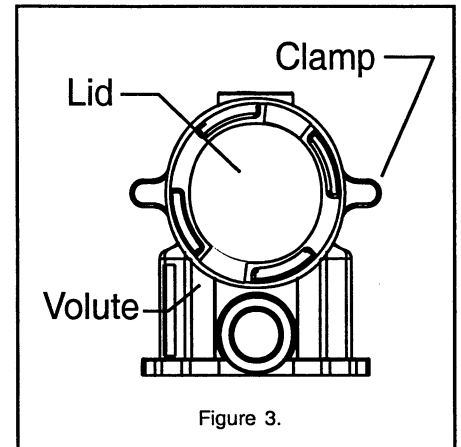

Figure 3.
- a. Make sure the lid O-ring is properly placed. Seat the clamp and lid then turn clockwise until the handles are horizontal; see Figure 3.